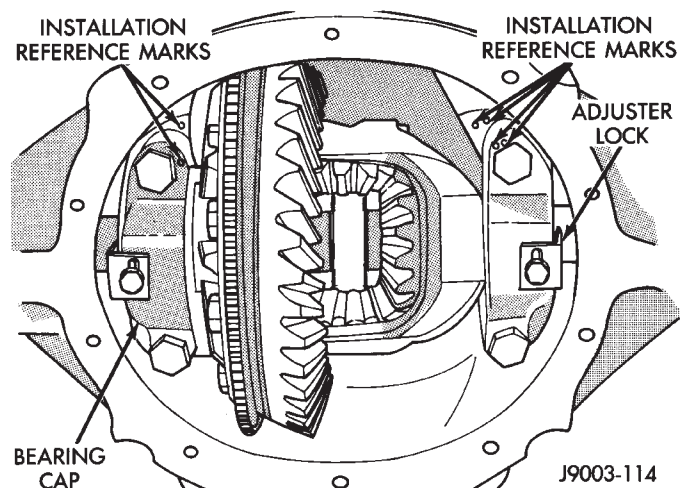

Fig. 21 Bearing Caps & Bolts
(1) Apply a coating of hypoid gear lubricant to the differential bearings, bearing cups, and threaded adjusters. A dab of grease can be used to keep the adjusters in position. Carefully position the assembled differential case in the housing.
(2) Observe the reference marks and install the differential bearing caps at their original locations (Fig. 21).